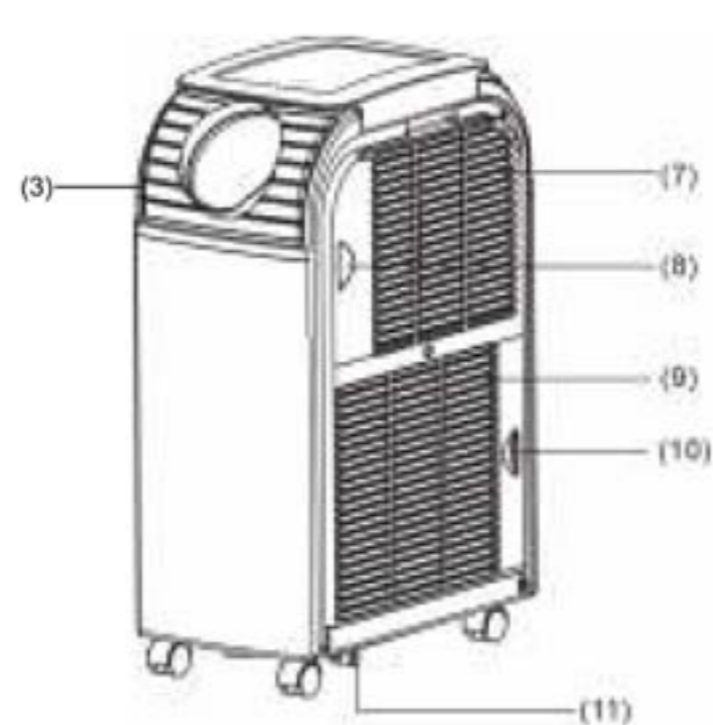

Fig. 4
2. FULL – Condensate fill-up tank indicator. If this indicator is on then the condensate collection tank is full. It is necessary to switch off the unit and drain the condensate by unscrewing the plug on pipe 11 (Fig. 4), then the unit can be switched on again.